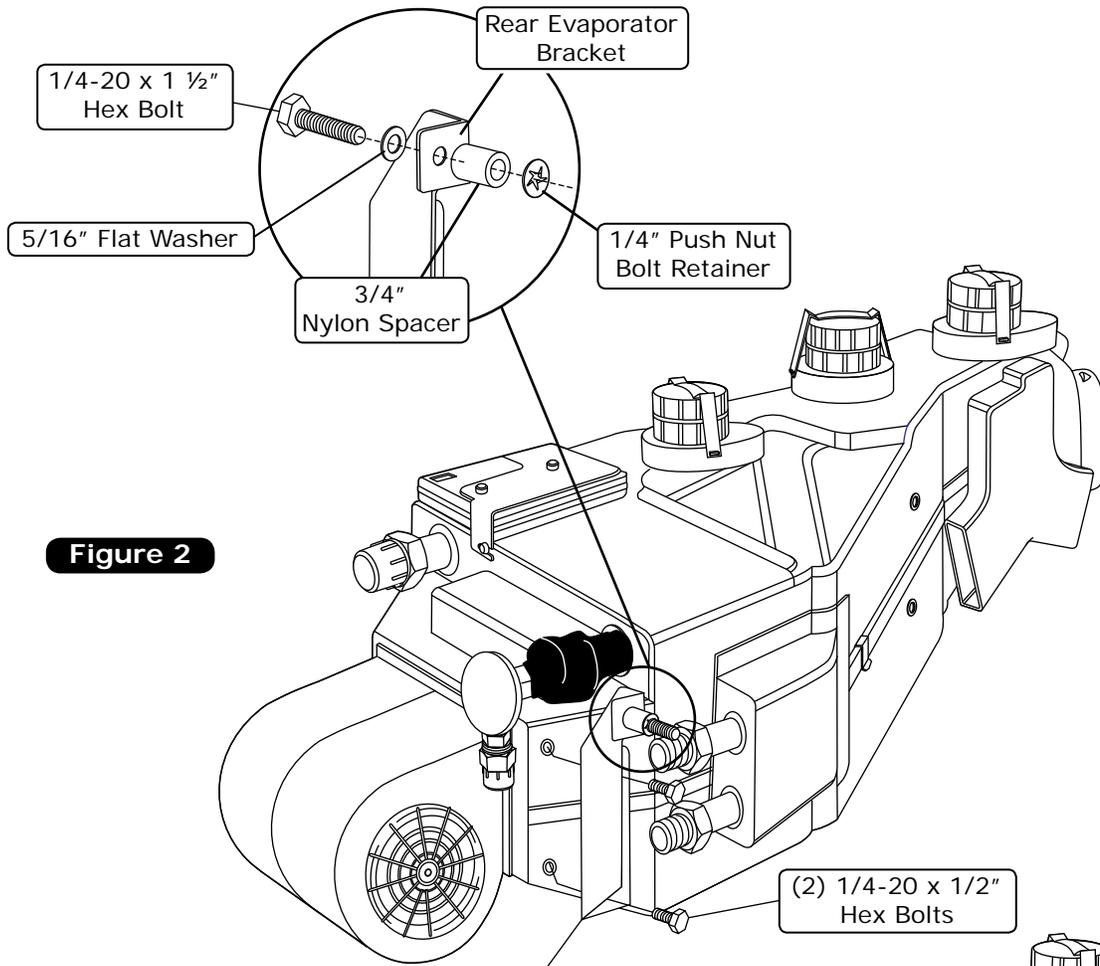

Figure 2
1. On a work bench, install the evaporator front and rear mounting brackets onto the evaporator using (4) 1/4-20 x 1/2" hex bolts and tighten as shown in Figure 1, below and Figure 2, Page 16.